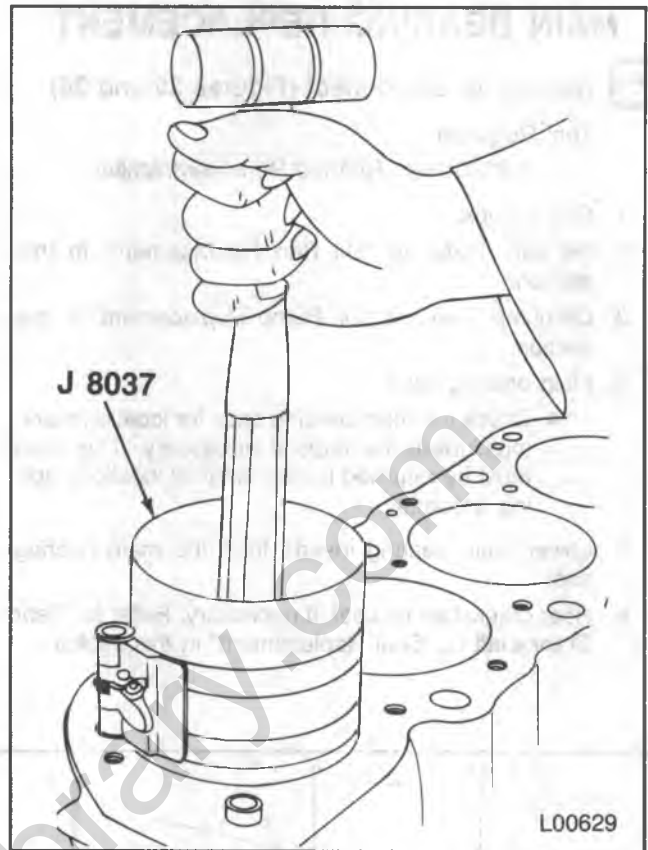

Figure 32 — Installing The Piston
- Without disturbing the ring end gap location, install J 8037 over the piston (figure 32).